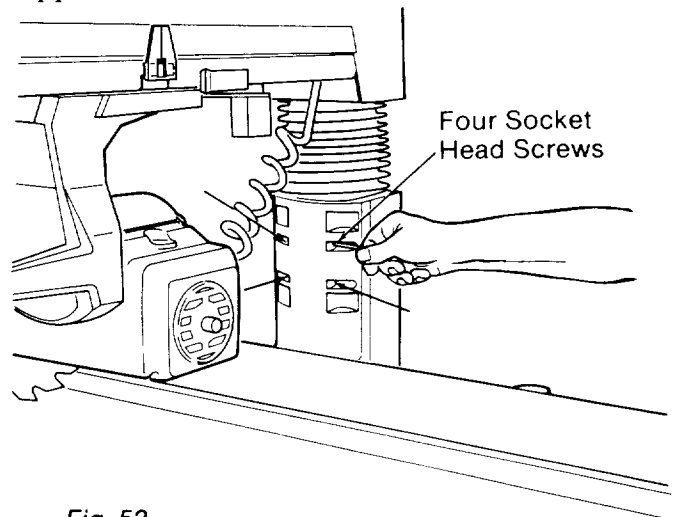

Fig. 53
1. Use a  $1/8"$  hex "L" wrench to loosen the four screws in the front of the *column support*. (Figure 53)